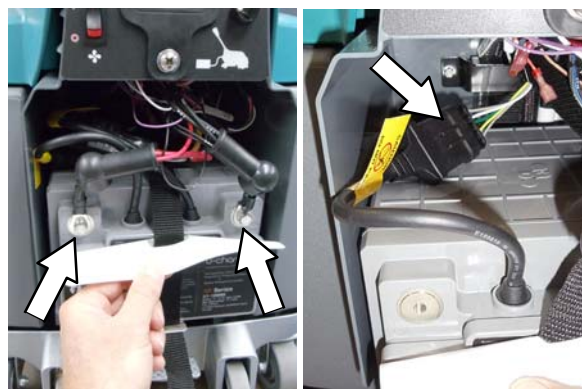

Fig. 2
2. Disconnect the black negative (-) cable first then red positive (+) cable from battery and unplug the battery's communication cable (Figure 2).